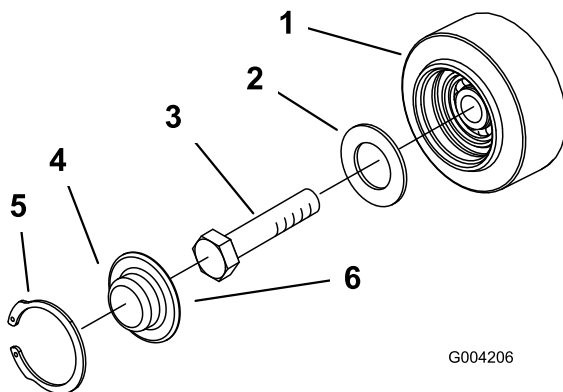

Figure 50
3. Remove the snap ring and cap from a road wheel (Figure 50).
4. Check the grease under the cap and around the gasket (Figure 50). If it is dirty, gritty, or depleted, clean out all of the grease, replace the gasket, and add new grease.